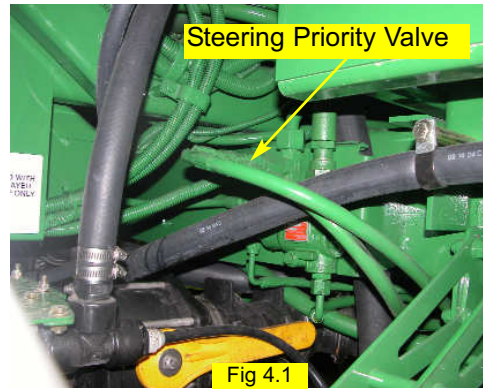
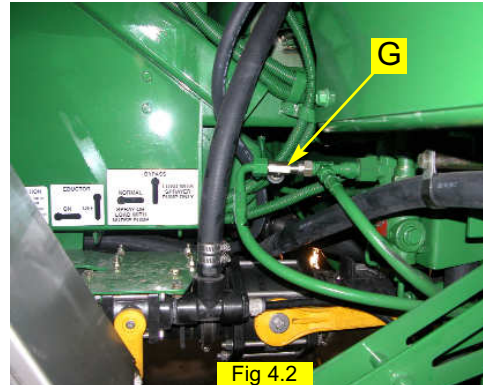

Fig 4.1
Fig 4.2
Locate the steering priority valve on the left side of the sprayer frame near the chemical inductor. (Figure 4.1) Remove the hose on the end of the run-tee attached to the excess flow outlet of the priority divider and install the run-tee (G) provided. (Figure 4.2) Reinstall the hose to the end of the new run-tee. This run-tee will provide the pressure connection for the hydraulic control block.